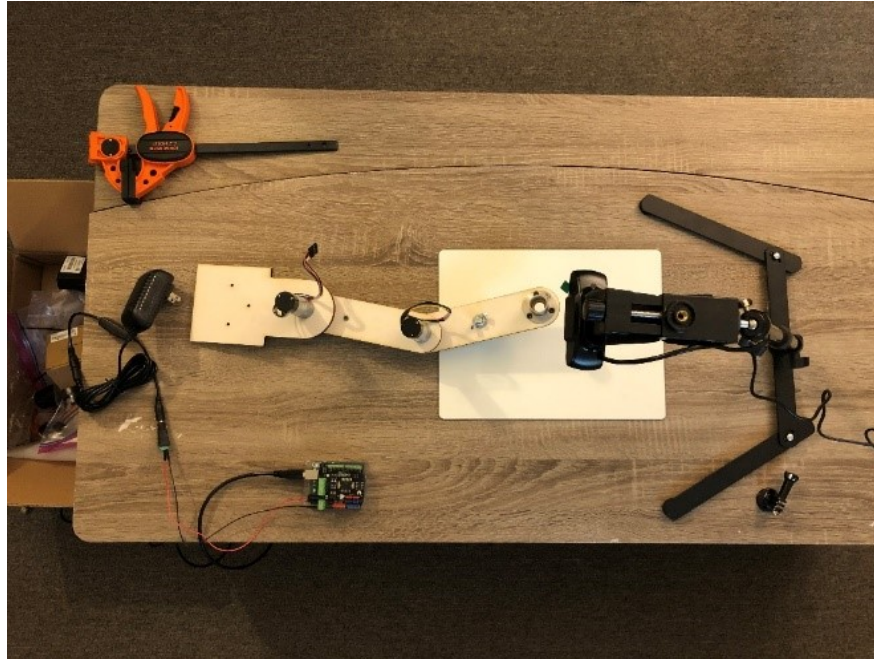

Figure 1: Overhead view of the assembled kit.
This week, we'll be assembling the 2-link robot arm and wiring up the system (Figure 1). You will also run some provided Arduino code, to confirm that everything has been properly connected. The code that we'll be using for the class can be found in the Lab 2 GitHub: https://github.com/mit212/lab2_2023.
3. Straighten each of the robot's link out, as shown in Figure 1. This is the "home position"